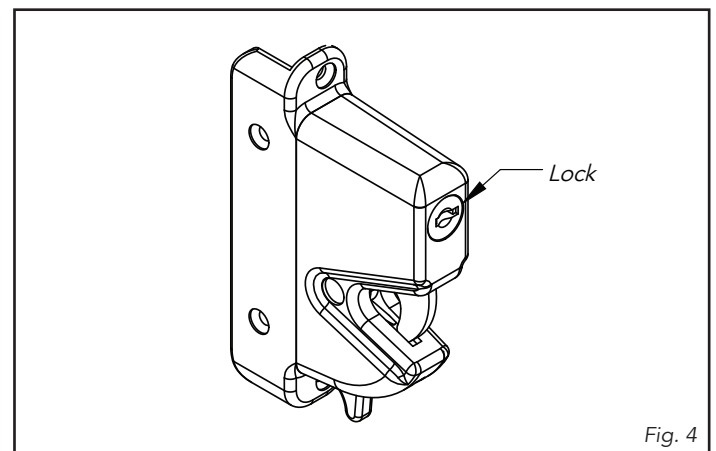

Fig. 4
4. After installation, TEST the locking and unlocking of the latch. **TO LOCK:** Turn key clockwise to stop point, remove key. **TO UNLOCK:** Turn key counter-clockwise to stop point, remove key (Fig. 4).